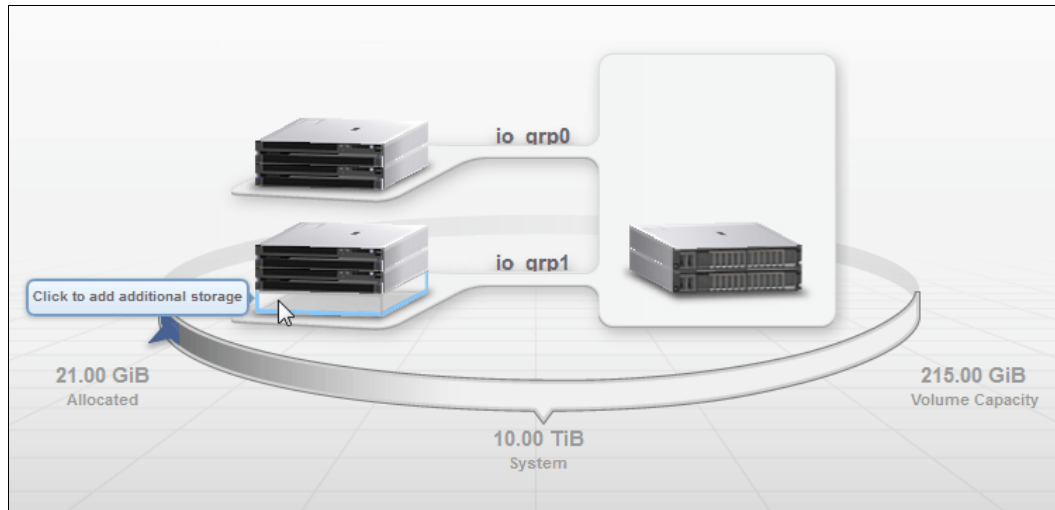

Figure 5-37 Click the unassigned expansion enclosure
3. Hover over the empty IBM FlashSystem V9000 expansion enclosure frame; the Click to add additional storage message is displayed (Figure 5-37 on page 203). Click the unassigned expansion enclosure and follow the instructions in the Add Enclosure wizard.